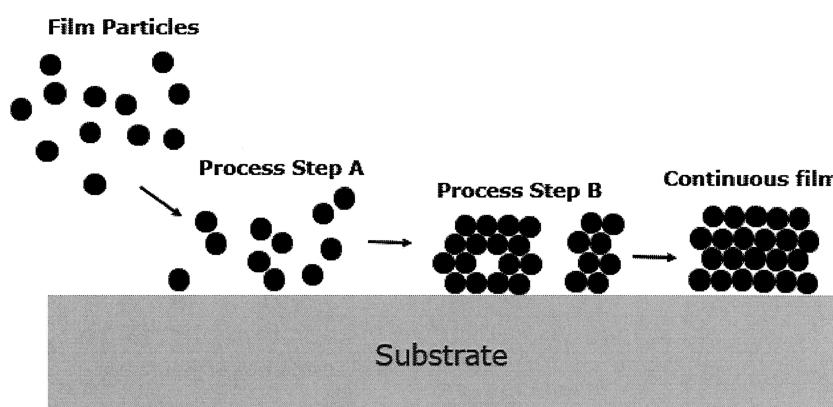

Figure 1: Typical PVD Deposition Mechanism
- (b) Figure 1 shows the transport of film particles to a substrate in a Physical Vapour Deposition (PVD) System.
- (i) Name the process steps Step A and B shown in Figure 1.